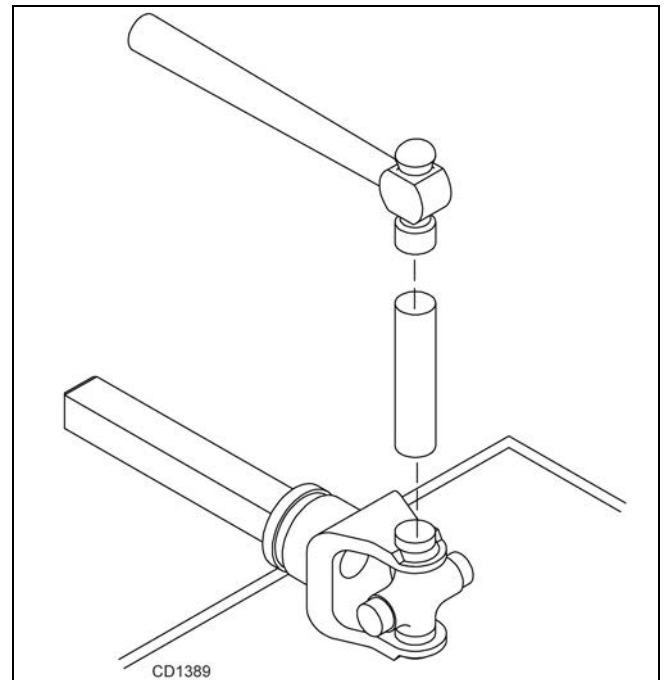

Figure 24
3. Seat cups by placing a drift or socket (slightly smaller than the cup) on cup and rap with a hammer. See Figure 24. Install snap ring and repeat on opposite cup.